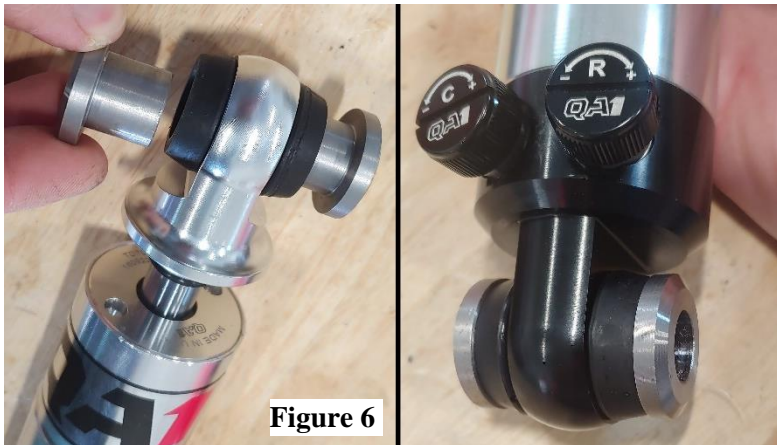

Figure 6
- 1) Install one spacer (#6) into each side of the shock bushings. (Figure 6) Each shock will use a total of four spacers.